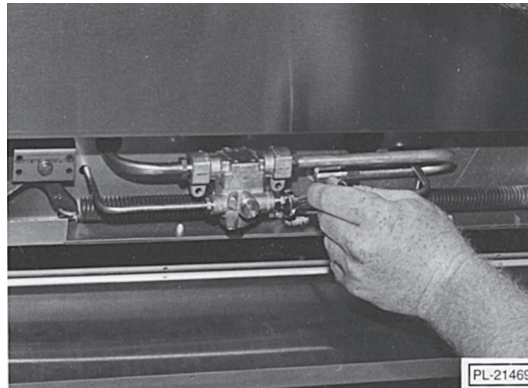

Fig. 39
3. Disconnect right- and left-hand pilot gas tubing from the safety valve (Fig. 39).